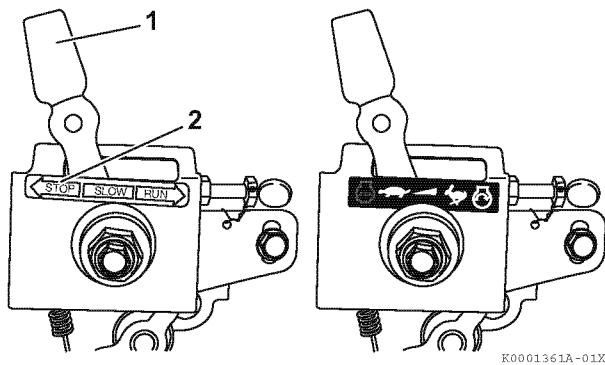

Figure 19
1. If your engine speed control is similar to **Figure 19** slide the engine speed control lever (1, **Figure 19**) to the STOP position (2, **Figure 19**).